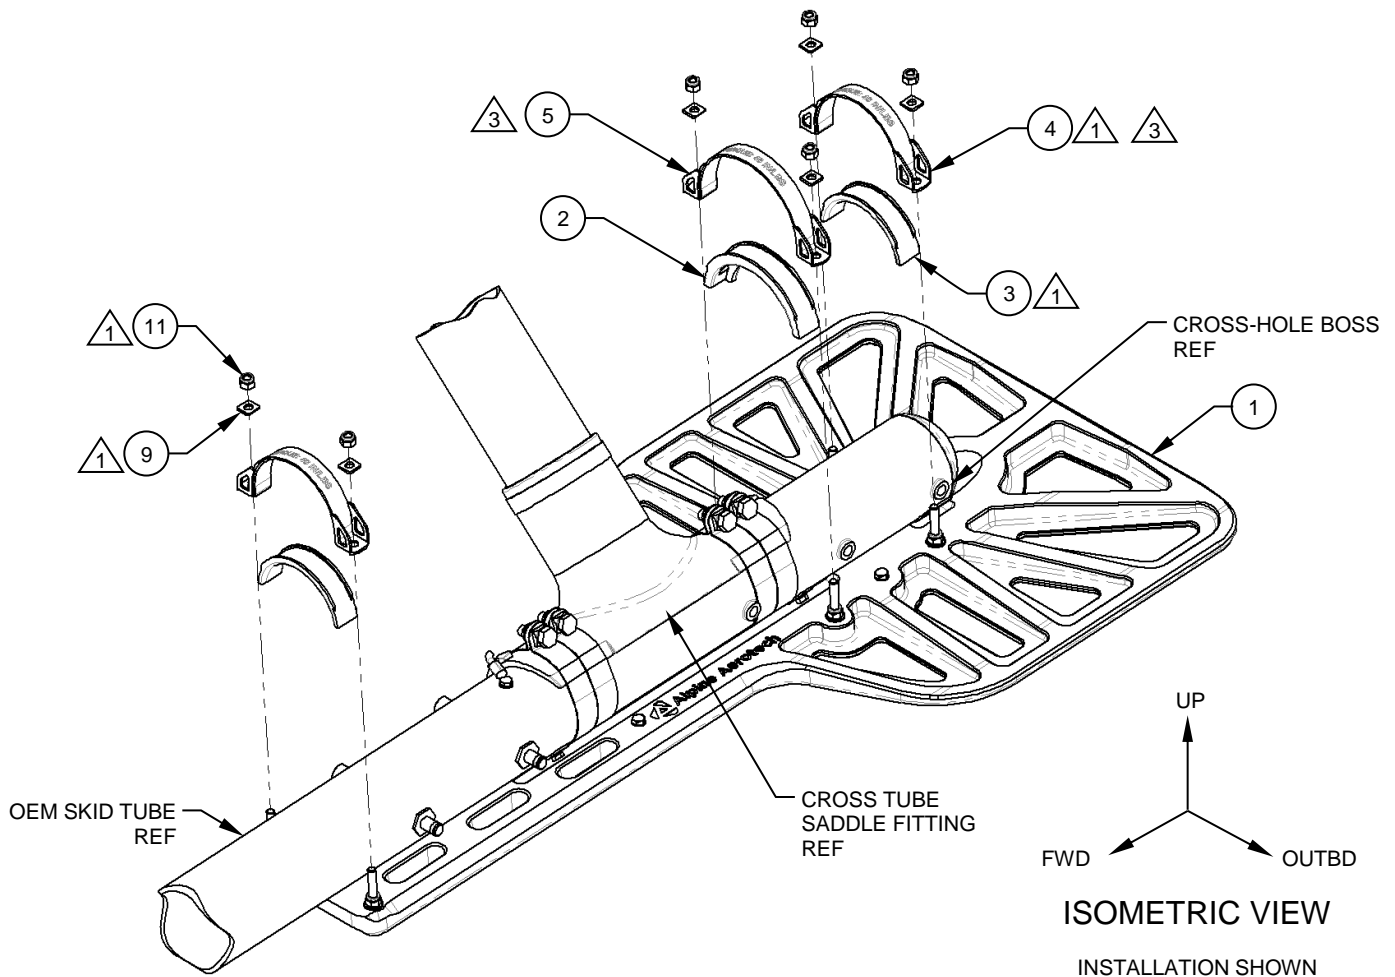

Figure 3
4. While the aircraft is raised, position the Bear Paw, Detail (Item 1) under the skid tube. Reference Figure 3.
5. Once the Bear Paw, Detail (Item 1) is under the skid tube in its approximate location, position the Strap, Assys (Items 4 & 5) and their respective Cap, Details (Items 2 & 3) on their corresponding bolts. Reference Figure 3.
NOTE: Ensure the Aft-most Strap, Assy (Item 4) and associated Cap, Detail (Item 3) are positioned between the cross-tube saddle fitting and the existing cross-hole boss at the aft end of the skid tube. Reference Figure 3.
6. Install the supplied Radius Washer (Item 9) and Nut (Item 11) on each bolt. Reference Figure 5. Ensure the radius edge on the Washer (Item 9) is oriented down and towards the skid tube. Reference Figures 3 & 4. A thin-wall socket may be required to adequately fasten the Nut (Item 11).
7. Lower the aircraft onto the Bear Paw, Details (Item 1). Torque the fasteners equally to 40 in/lbs. while ensuring the Strap, Assys (Items 4 & 5) sit roughly level. Add tare (drag) torque per standard aircraft practices as specified in AC43.13. Reference Figures 3 & 4. Apply Torque Lacquer (Item 15) or equivalent, to all fasteners common to the Strap, Assys (Items 4 & 5).